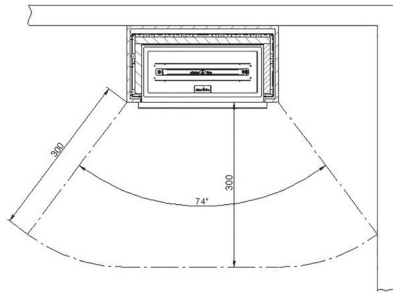

Fig. 3
- No combustible objects (decorative items, pieces of clothing etc.) must be placed within the radiating area (300 mm). (see Fig. 3)